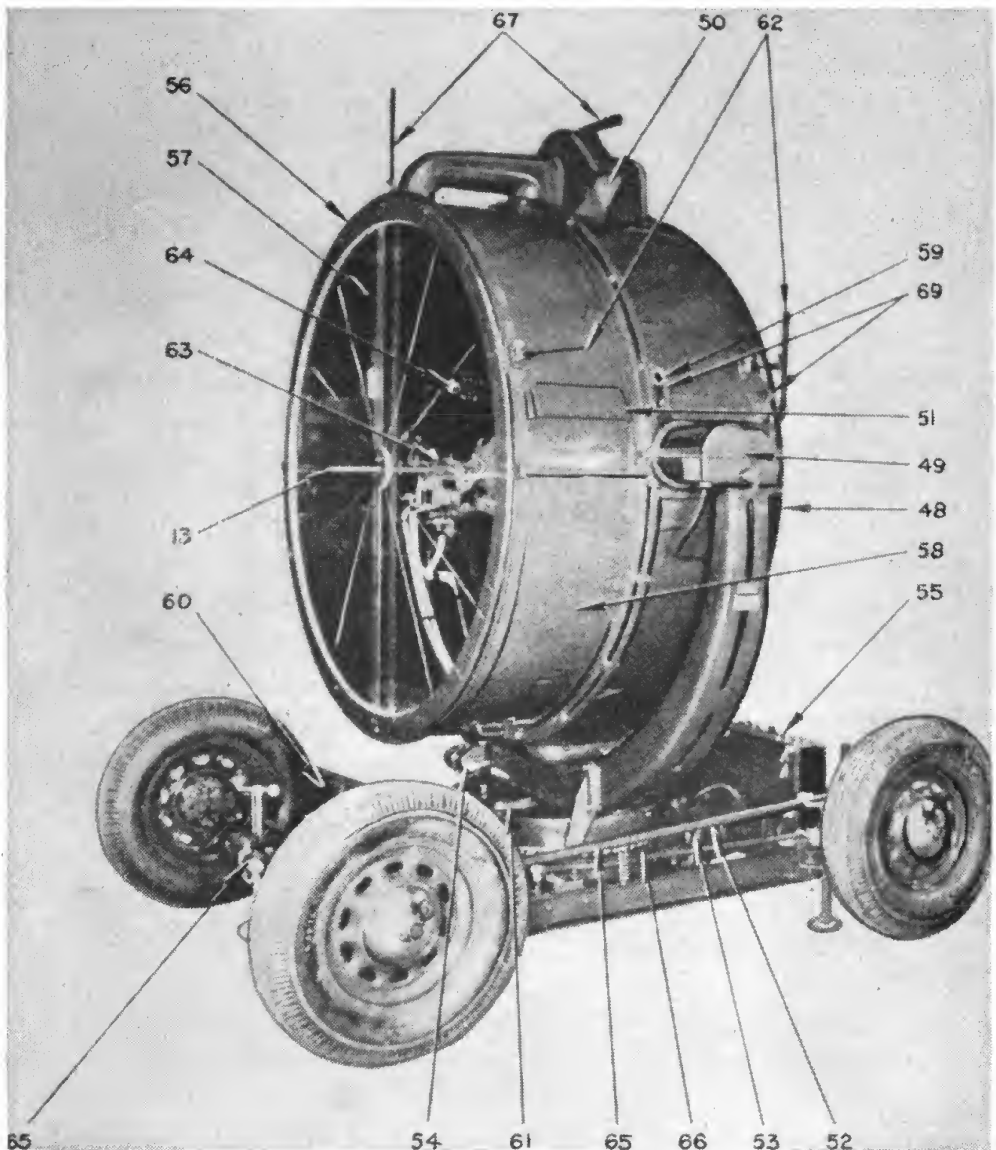

FIGURE 2.—Sperry M1941 antiaircraft searchlight (front quarter view).
Q. Point out the various parts of the searchlight with which your unit is equipped. While pointing out each part, describe its use. **A.** See figures 2, 3, 4, and 5.